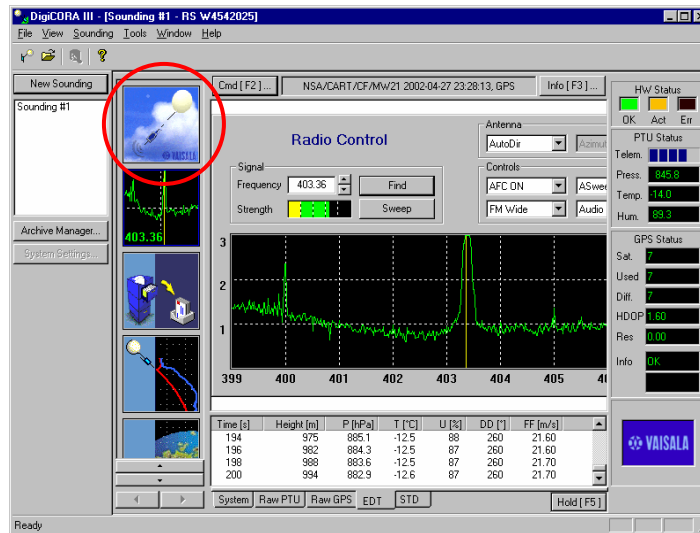
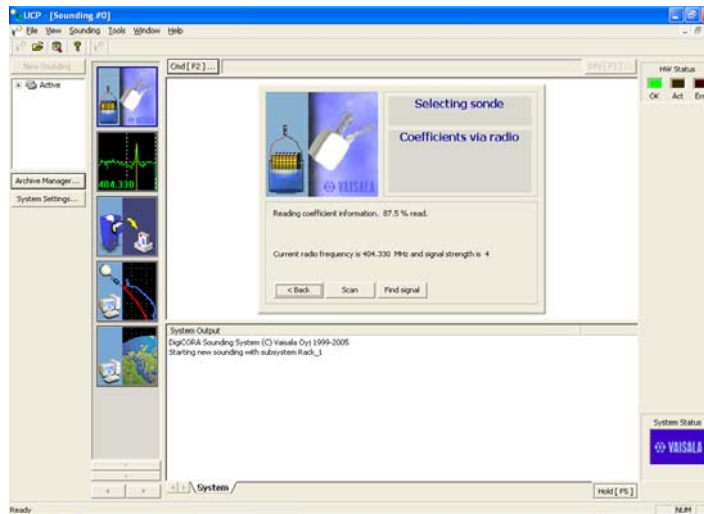

Figure 7
Figure 8
- 7) Once the system has found the radiosonde, click on the top left icon (see Figure 7) to get back to the control screen. You should see a screen as shown in Figure 8.